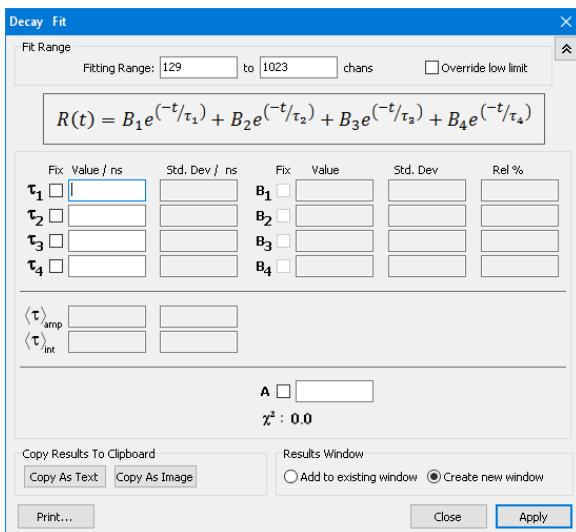

Figure 9-2: Tail Fit dialogue box
- 19-4 Select **Data > Exp. Tail Fit**. This will open up a the dialogue box as shown in Figure 9-2. The fitting range shown on top of the dialogue box is inherited from the zoom in step 3 above, provided the zoomed region starts at, or beyond, the peak of the decay. If the zoomed region starts before the peak of the curve, then the **Fitting Range From** value will automatically be set to the peak of the curve. Remember, the peak is not necessarily the most appropriate start of the fitting range. The fit range for a tail fit should start when the IRF is completely finished.